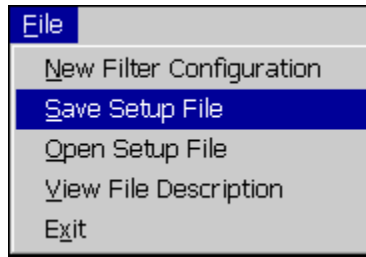

Figure 3-16 Tutorial File Pulldown Menu
56. Access the Save Setup File feature by clicking on **File** in the menu bar. The pulldown menu in Figure 3-16 will appear.